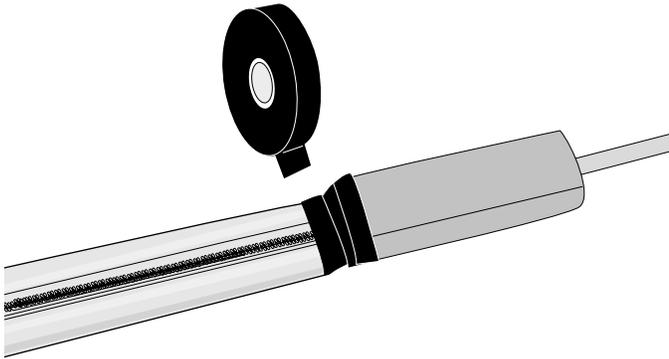

Figure 27
- d) Use a multiple wrap of electrical tape to secure the foam tubing to the pulling sleeve (Figure 27).